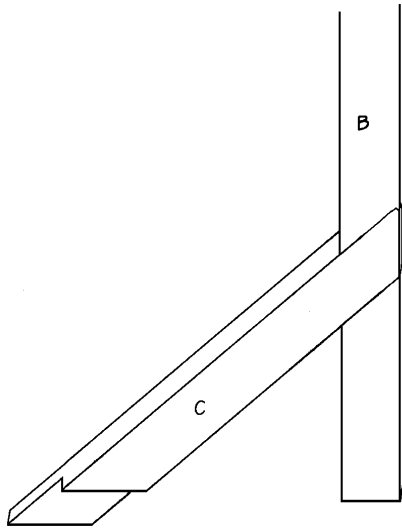

Figure 6
2. Place the footing (E) dado side down, over the lap dado in the cross tie (A). Screw them together by screwing through the footing dado into the cross tie dado. Use four 3"-long screws to secure the joint.
3. Fit the front brace (C) into the diagonal dado cut into the upright (B), as shown in *Figure 6*.